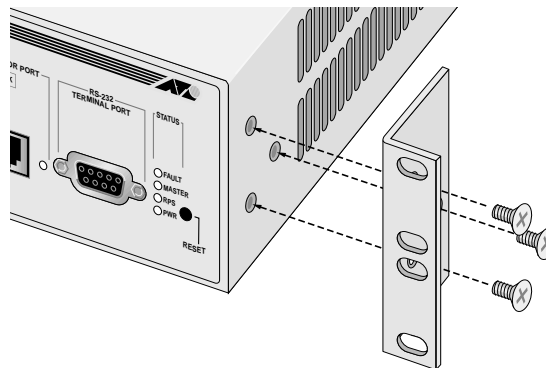

Figure 3-4 Attaching Rackmounting Brackets
4. Attach the rackmounting brackets to each side of the switch, using the six flathead screws that came in the switch package as shown in Figure 3-4.